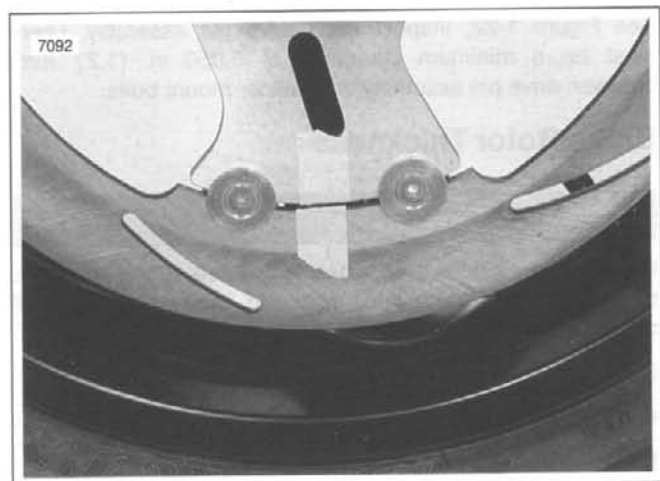

Figure 1-25. Rotation
3. See Figure 1-25. Grasp brake rotor and turn it as far as possible in the opposite direction. While holding rotor in this manner, measure the distance the tape has traveled relative to the piece of tape remaining on carrier.